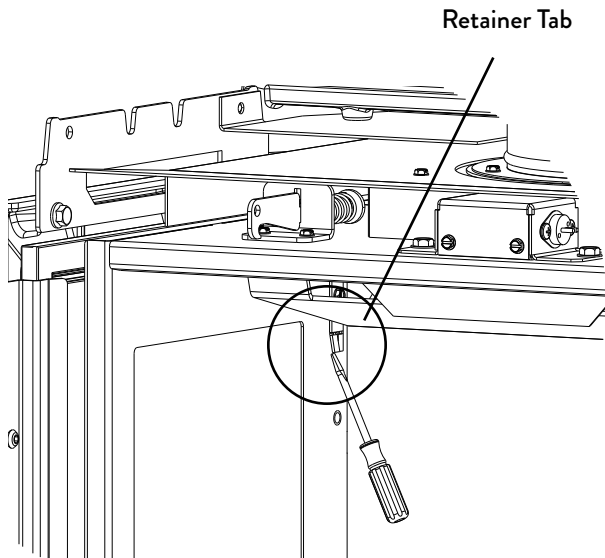

Figure 10.3. Bend the front tab on each side slightly.
1. Use the screwdriver to bend out the front tab of the retainer clips on each side slightly, only enough to allow the screwdriver access from the front. See fig. 10.3.